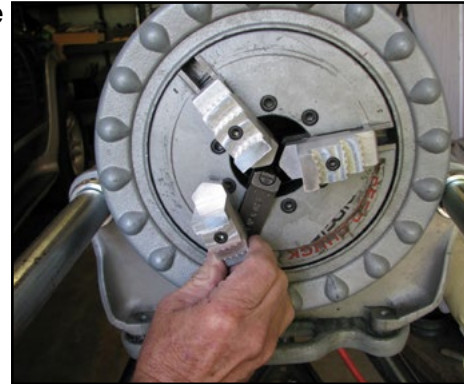

FIGURE 1
Rotate the Outstanding Jaw™ 90° and place its magnet onto the end of the chuck jaw to fix it in place. (see Figure 1)
5. Repeat for the two remaining jaws. (see Figure 1)